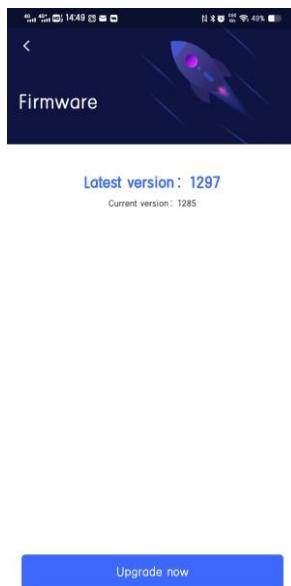

Figure 34 Firmware upgrade
- ③ After the download is completed, reconnect the WiFi of SLAM100 device, exit the firmware upgrade page, and click the device on the home page again to enter the device standby page.
- ④ Click "Settings" in the upper right corner of the standby page, enter the firmware upgrade page, click "Firmware Upgrade" and then click "Upgrade now" (Figure 34). Please wait patiently for the firmware upgrade package to be transmitted to slam100 device. Please do not operate your mobile phone or slam100 device at this time.
- ⑤ After the transmission is completed, click OK. At this time, please wait for 35s before manually restarting the device. After restarting the device, wait for the white light of the device indicator to blink and turn green. At this time, the firmware update is successful, and the device can be used normally.